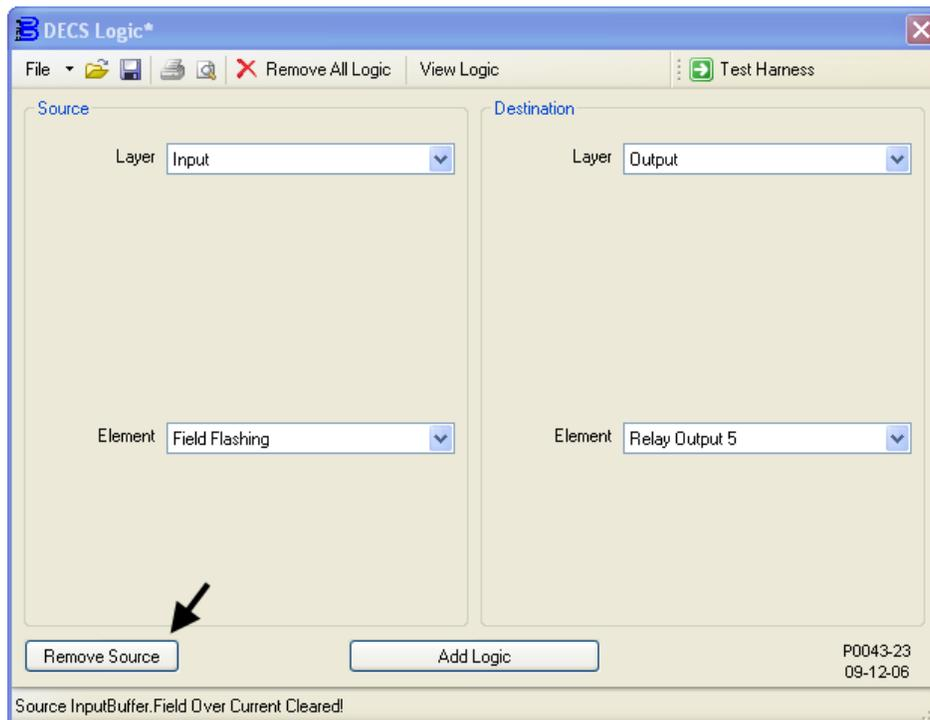

Figure 9-19. Deletion of OutputBuffer - InputBuffer.Field Flashing ---> Relay Output 5
- Figure 9-19 illustrates the DECS Logic window settings associated with this step. Disconnect the Buildup Active input buffer from the Output Relay #5 output buffer. In Table A-2, this association is identified by “DESTINATION: OutputBuffer – InputBuffer.Field Flashing → Relay Output 5”.